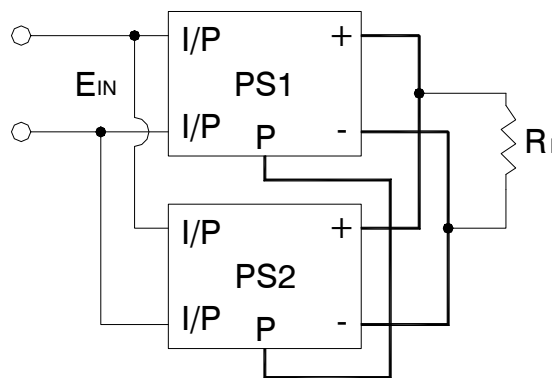

Figure 7.7: Wiring of S.P.S. with built-in parallel function
(1) S.P.S. With Built-in Parallel Function: Connecting “P” terminals together such as the PSP models (“G” terminal also need to be connected together). Input/output should be connected in parallel first and then connect to the AC source/load just as figure 7.7 (some S.P.S. need a minimum load after paralleling).